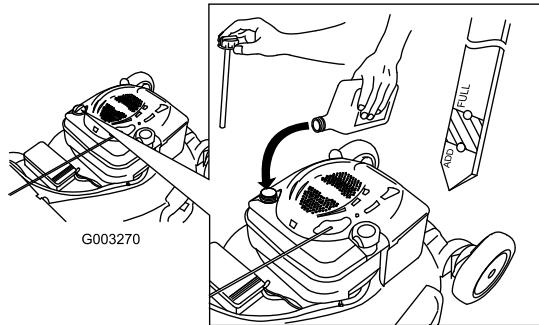

Figura 7
1. Retire la varilla (Figura 7).